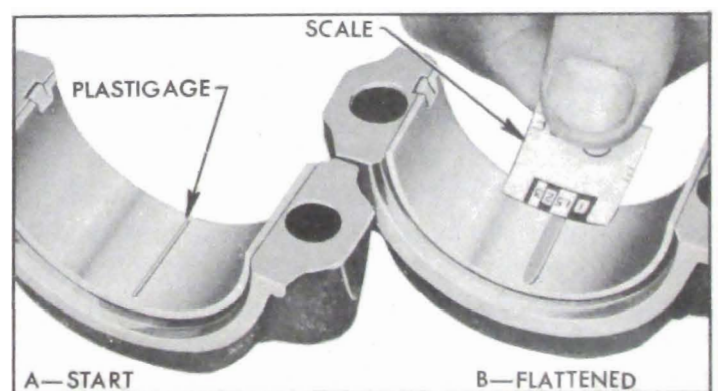

Figure 2-28—Checking Bearing Clearance With Plastigage
2. Place a piece of Plastigage lengthwise along the bottom center of the lower bearing shell (fig. 2-28, view A), then install cap with shell and tighten bolt nuts to 40-45 ft. lbs. torque. NOTE: *The rib on edge of cap and the conical boss on web of rod must be toward rear of engine on all rods in right bank or toward front of engine in left bank.*
5. Using the scale printed on the Plastigage envelope, measure the flattened Plastigage at its widest point. The number within the graduation which most closely corresponds to the width of Plastigage indicates the bearing clearance in thousandths of an inch. See figure 2-28, view B.